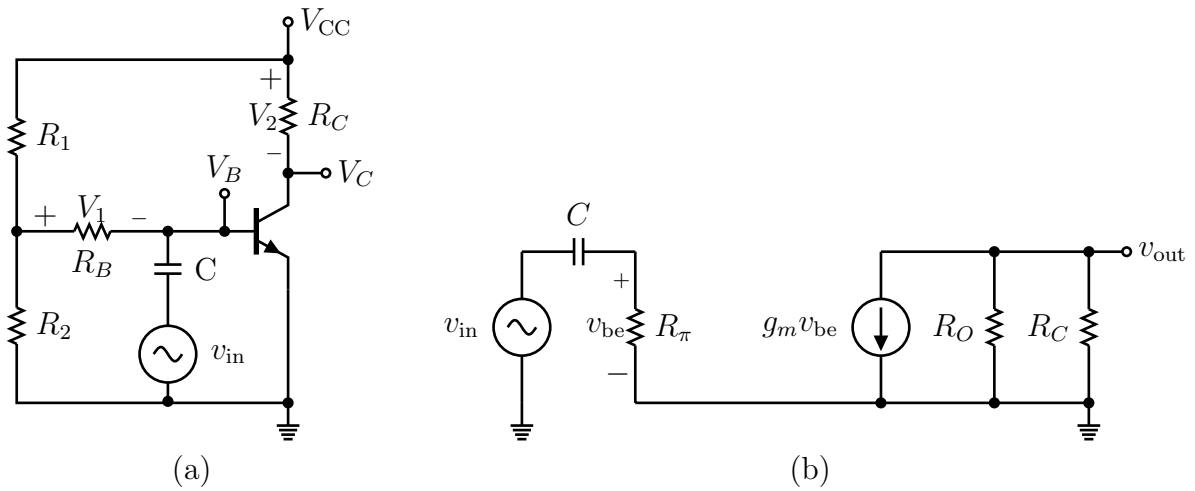

Figure 2: A transistor characterization circuit (a) as built, and (b) in the hybrid-pi small signal approximation.
1) For the circuit in Fig. 2, show that:
2) Using the hybrid-pi small signal model for the circuit in Fig. 2 show that the small signal gain in the limit that $C \rightarrow \infty$ and $R_0 \rightarrow \infty$ is given by: